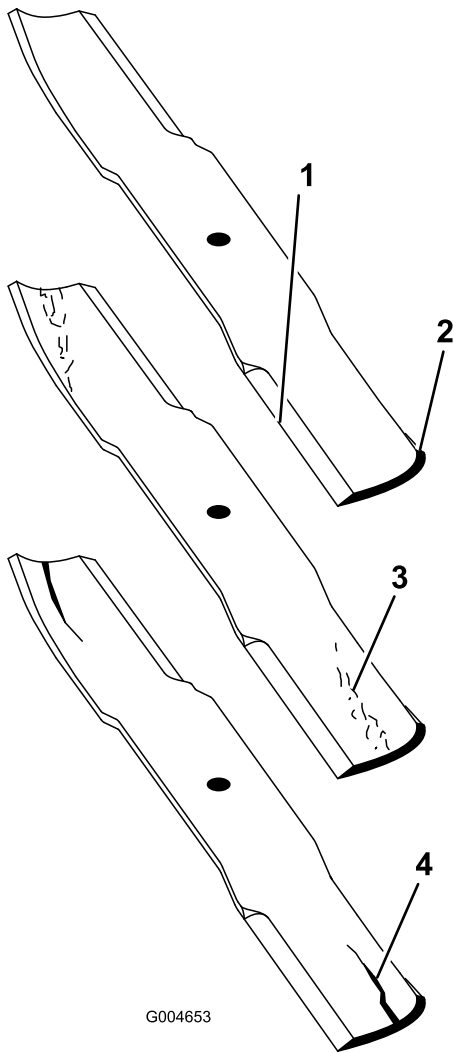

Figure 91
- Examine the cutting ends of the blade carefully, especially where the flat and curved parts of the blade meet (Figure 91).
Note: Because sand and abrasive material can wear away the metal that connects the flat and curved parts of the blade, check the blade before using the mower. If the blade is worn (Figure 91), replace it.